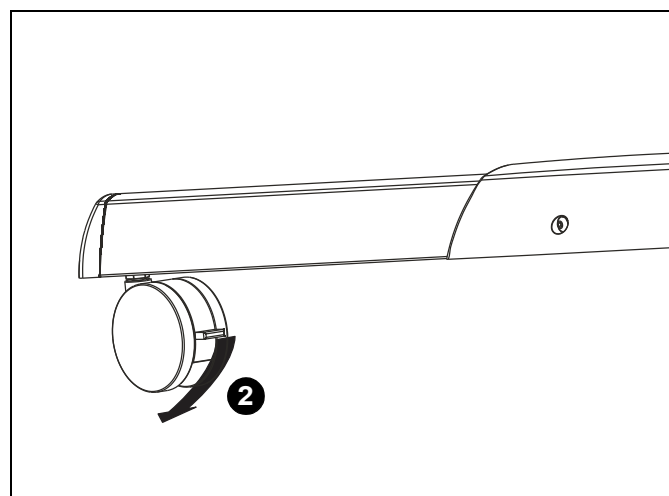

Figure 18
2. Always lock the wheels when the cart is not moving by pressing down the locks on wheels. (See Figure 18)